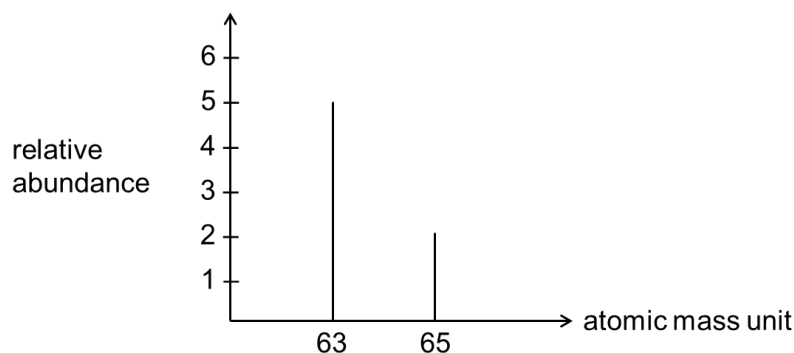

Fig. 5.1
- (ii) Using Fig. 5.1, determine the relative atomic mass, A_r , of copper. Give your answer to 4 decimal places.